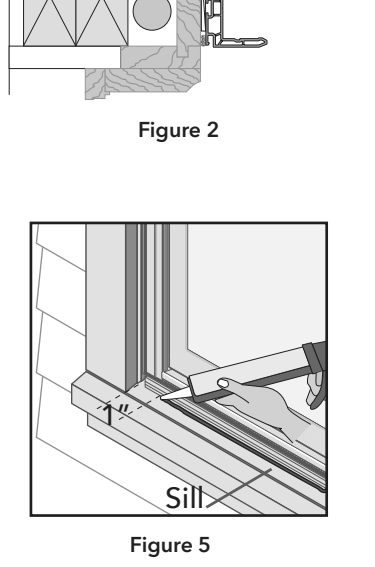

Figure 5
- D. NOTE: For full frame replacement in brick or siding, where the wall is designed to manage water do not leave gaps or weeps in the interior seal. For pocket replacement, if weep holes are not present in the sill adapter and the existing sill slopes to the exterior, leave weep gaps in the sealant (Figure 5).